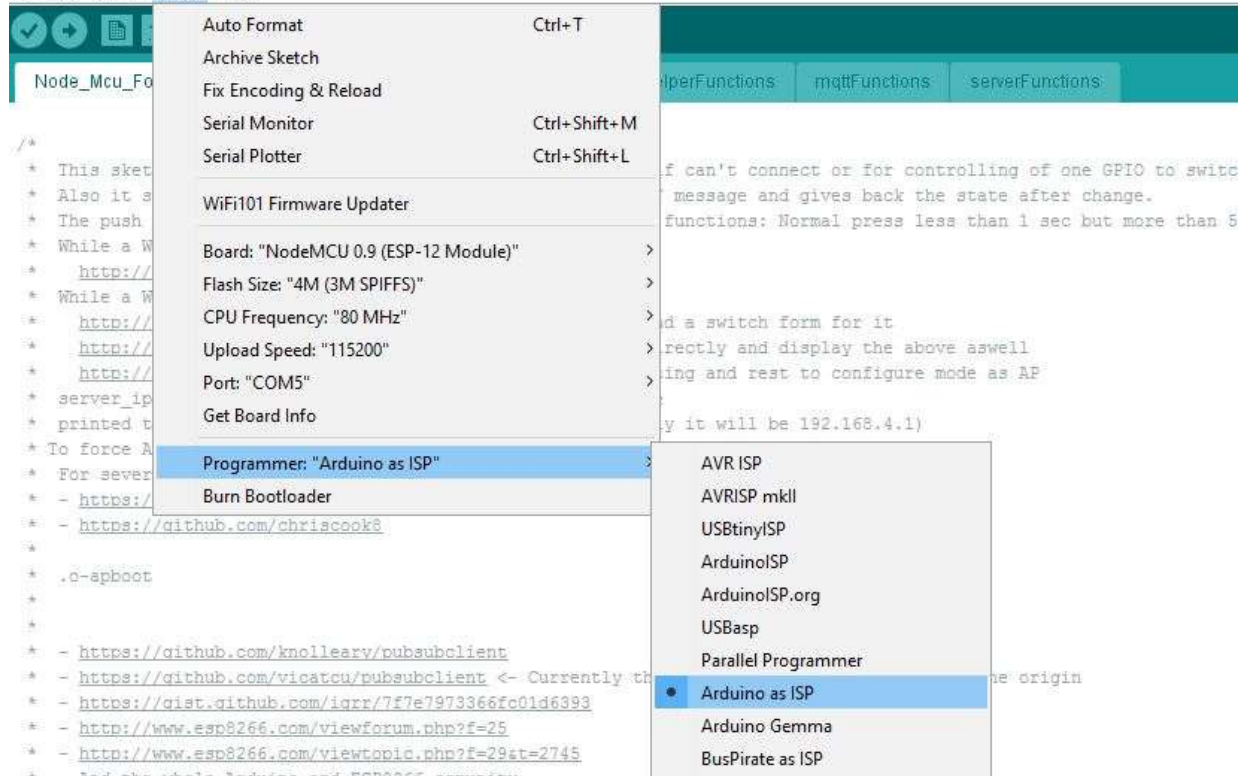

Figure 24: IDE Selection
10. Click on tools tab, move mouse pointer to “Programmer: “Arduino as ISP””, under this click on “Arduino as ISP” to select. Refer to figure 24.